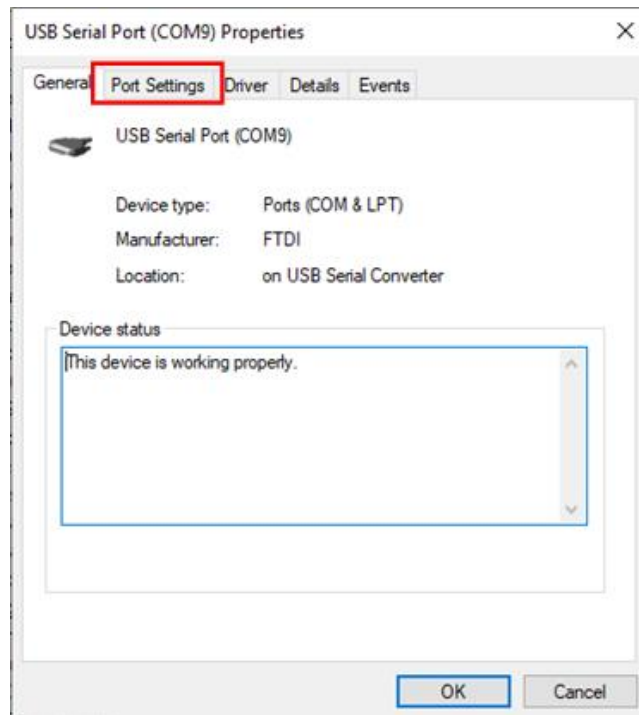

Fig.3.36
6) In the USB Serial Port Properties window, select 'Port Settings' (Fig.3.36).